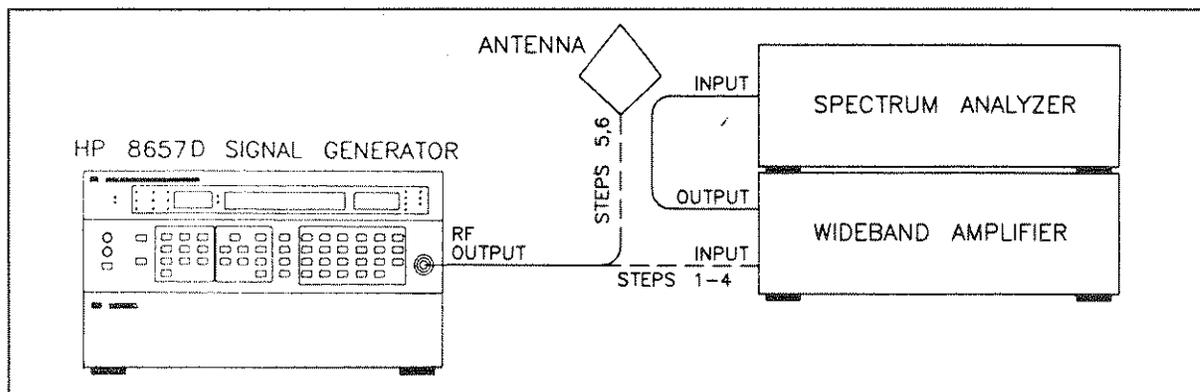

Figure 4-17. Output Leakage Test Setup
1. Connect equipment as shown in Figure 4-17, for the signal path shown as 1-4.